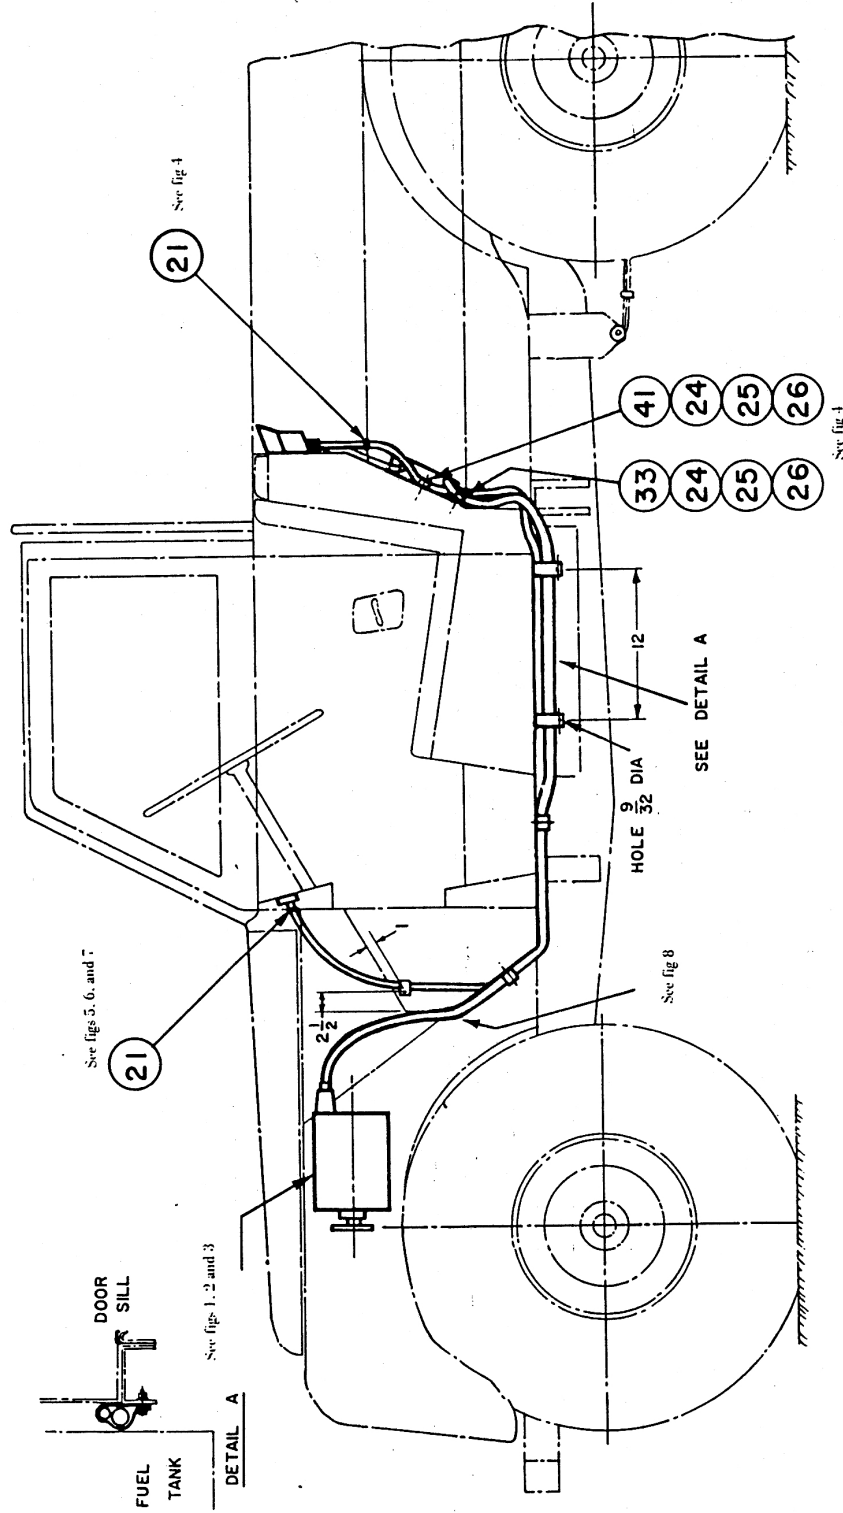

FIG 9 - CONDUIT LAYOUT - ELEVATION
- b. A pilot hole in the channel below the left door and enlarge the 9/32 inch diameter hole (fig 9).
- j. Clamp both conduits below the floor panel and to the channel under the door using three clamps (42) with screws (34), nuts (35) and lock washers (36) (figs 9 and 10).